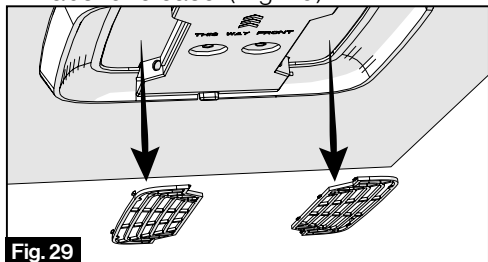

Fig. 29
2. Remove the filters by pushing the tabs to release. (Fig. 29)